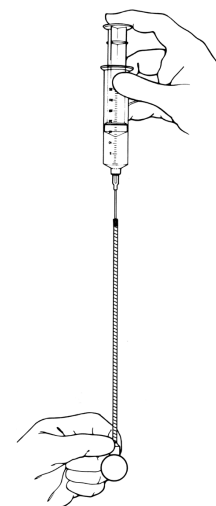

Figure 4-3b. Fill Balloon
6. Fill balloon with 20 cc of filling solution. (Figure 4-3b)